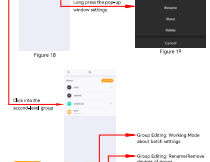

Figure 21
- Enter [4G / WIFI] and select [My] interface, click [Sub-account management] (as Figure 21 / 22).